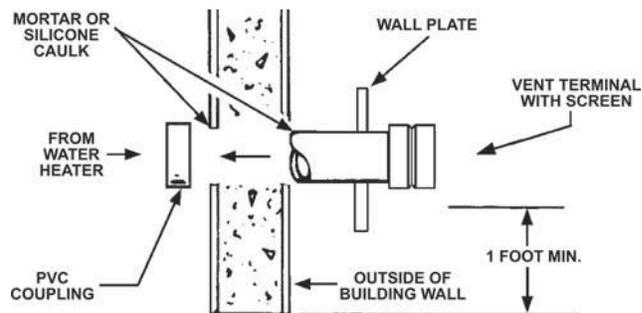
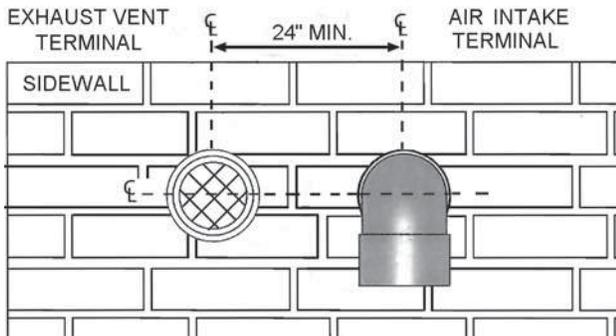

Figure 8: VENT TERMINATION
Figure 9A
2. Through-the-Wall Termination - horizontal vent termination directly through an outside wall, see Figure 8 on Page 24.
The first step is to determine where the vent pipe will terminate. See Figure 8, Figure 9A, and Figure 10. The vent may terminate through a sidewall as shown in Figure 8, Figure 9A and Figure 10 or through the roof as shown in Figure 13, Figure 14 and Figure 15.
Instructions on proper installation through a sidewall are provided in Figure 8, Figure 9A, and Figure 10.
Cut a length of pipe about 3.5 inches (8.9 cm) longer than the wall thickness at the opening. Glue the vent terminal to this section of pipe. Slide the wall plate over the pipe to stop against the vent terminal. Place a bead of caulking (not supplied) around the gap between the pipe and cover plate. Apply enough to fill some of the gap between the pipe and wall. Place some of the caulking on the back of the plate to hold it against the wall after installation. If the vent pipe is installed up to the wall, with a coupling on the end against the wall opening, the pipe with the vent terminal can be prepared for gluing before inserting through the wall. Slide the pipe through the wall and insert into the coupling on the other side of the wall, making sure that the vent terminal ends up pointed in the correct position, see Figure 8.
6. If the air intake pipe is installed up to the wall, with a coupling on the end against the wall opening, the pipe with the air intake terminal can be prepared for gluing before inserting through the wall. Slide the pipe through the wall and insert into coupling on the other side of the wall, making sure that the air intake terminal ends up pointed in the correct position (Figure 9A and Figure 10).